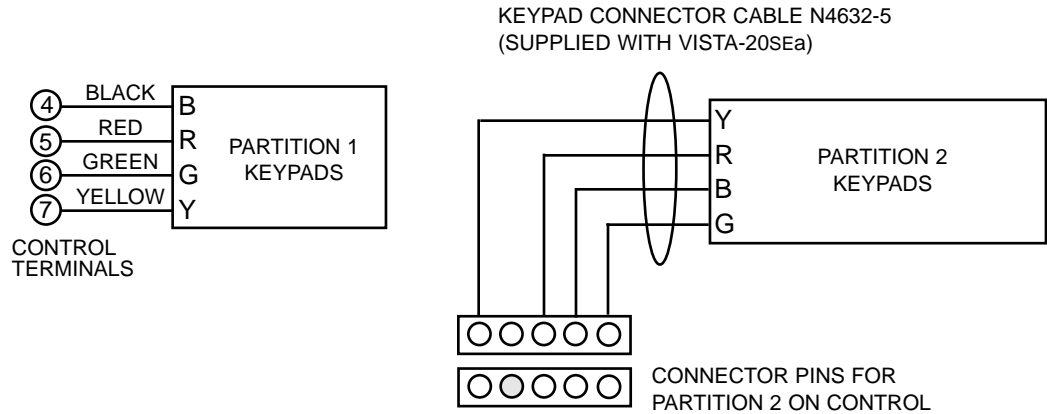

Figure 4. Keypad Connections To The Control Board
2. Connect remote Keypads for Partition 1 to terminals 4, 5, 6, and 7 on the control board, as shown in Figure 4.